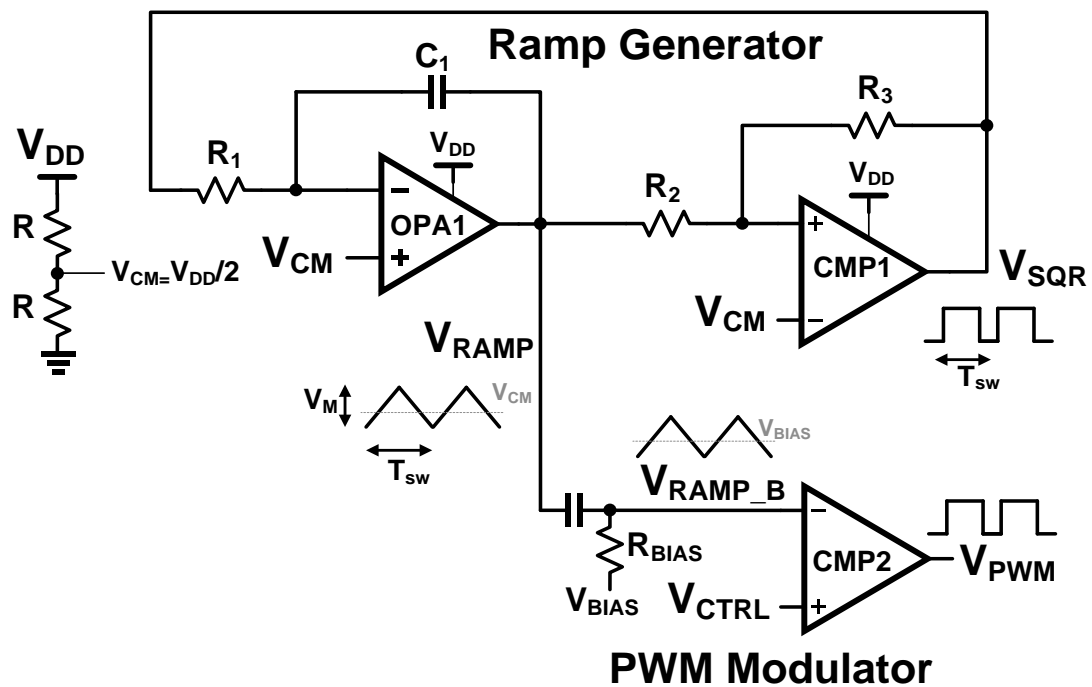

Figure 2-14 Ramp Generator Circuit
1. For the ramp generator circuit in Figure 2-14, derive the expression for ramp amplitude (Equation 2-9) and frequency (Equation 2-10)
2. Simulate the ramp generator circuit shown in Figure 2-14 and verify the expressions in Equation 2-9 and Equation 2-10. Sweep the values and observe the effect on ramp amplitude and frequency.